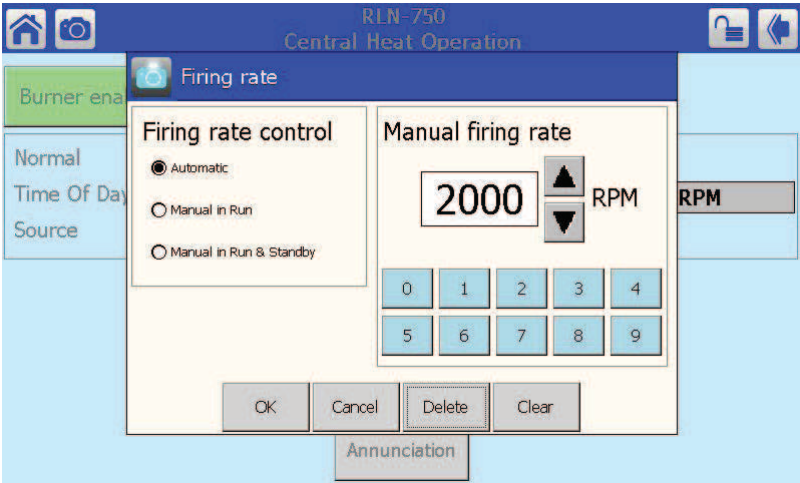

FIGURE 16- EDITING THE MANUAL FIRING RATE
4. Under "Firing Rate Control" tap "Manual in Run." Refer to Figure 16.